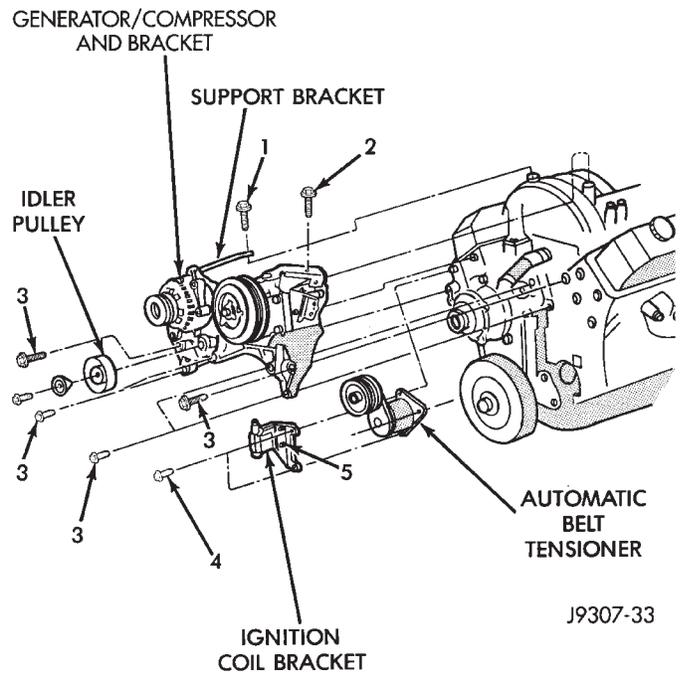

Fig. 55 Generator and A/C Compressor Mounting Bracket—5.2/5.9L Engines
If equipped with A/C, the generator and A/C compressor along with their common mounting bracket (Fig. 55) must be partially removed. Removing generator or A/C compressor from their mounting bracket is not necessary. Also, discharging A/C system is not necessary. **Do not** remove any refrigerant lines from A/C compressor.
(9) The drive belt idler pulley must be removed to gain access to one of A/C compressor/generator bracket mounting bolts. Remove idler pulley bolt and remove idler pulley (Fig. 55).
(10) Remove oil dipstick tube mounting bolt at side of A/C- generator mounting bracket.
(11) Disconnect speed control cable and throttle cable at throttle body. Refer to Accelerator Pedal and Throttle Cable in Group 14, Fuel System for throttle cable removal and installation. Refer to Group 8H for removal and installation of speed control cable.
(12) Remove bracket-to-intake manifold bolts (number 1 and 2) (Fig. 55).
(13) Remove bracket bolts (Fig. 55).
(14) Lift and position generator and A/C compressor (along with their common mounting bracket) to gain access to bypass hose. A block of wood may be used to hold assembly in position.
(15) Loosen and position both hose clamps to center of bypass hose. Remove hose from vehicle.
- (4) Install generator-A/C mounting bracket assembly to engine. Tighten bolts (number 1 and 2) (Fig. 55) to 54 N·m (40 ft. lbs.) torque. Tighten bolts (number 3) (Fig. 55) to 40 N·m (30 ft. lbs.) torque.